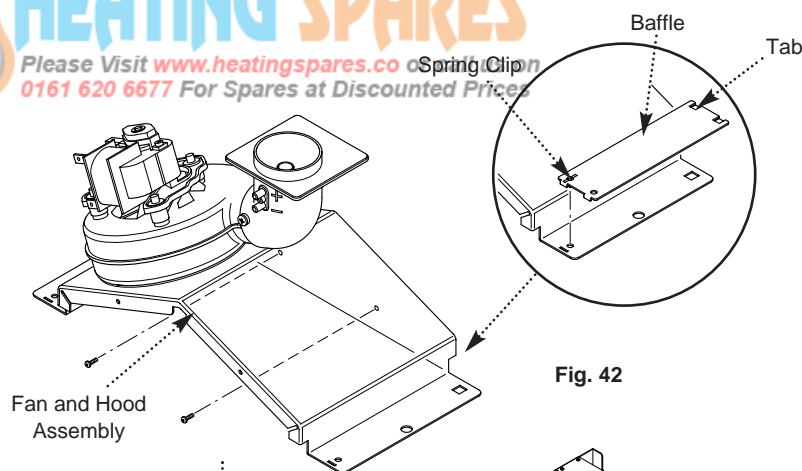

Fig. 42
10. Remove the spring clips retaining the air box side baffle plates. Disengage the tabs on the baffles from the slots in the fan hood (Fig. 42).